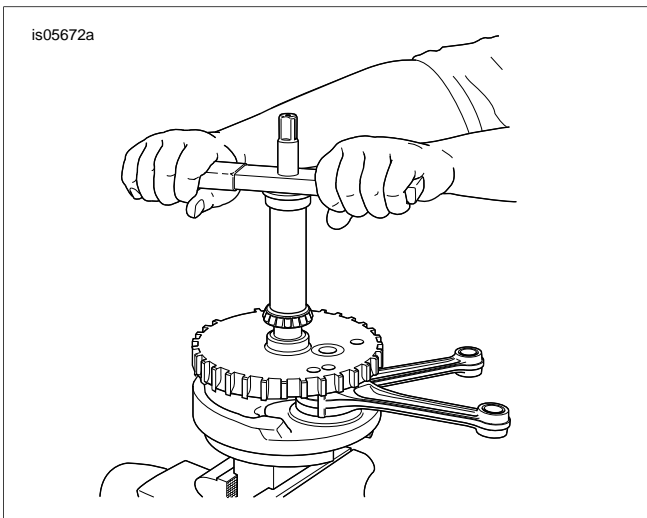

Figure 17. Press Inner Bearing Cone to sprocket Shaft
10. See Figure 17. Rotate handle of tool in a clockwise direction until bearing cone bottoms on shoulder of sprocket shaft.